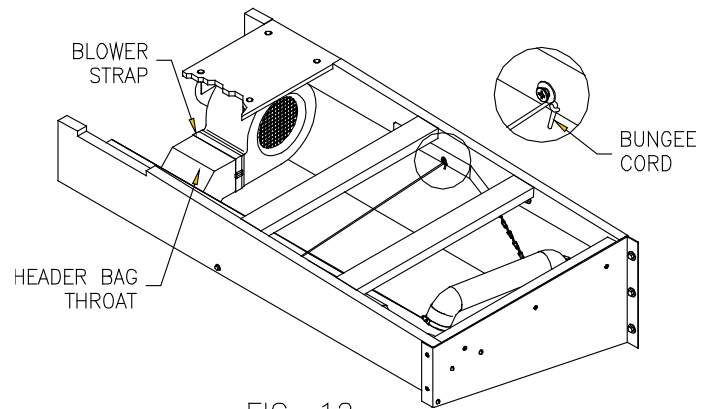

FIG. 12
- Pull header air bag throat material over blower throat (Fig. 12).
- Pull bungee cord (looped end) to back of head frame (Fig. 12).